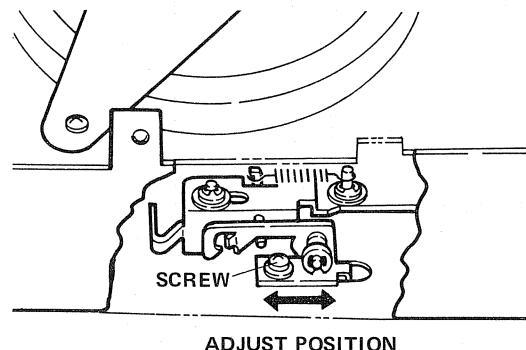

Fig. 10
3. Loosen arrest screw of pause ratchet unit (Fig. 10). Adjust ratchet position (sideways) until proper button lock and release action is obtained.